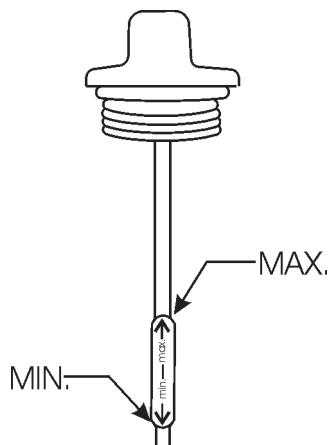

Figure 17. Dipstick (Mixer Engine)
- Determine if the mixer engine oil is low (Figure 17), add correct amount of engine oil to bring oil level to a normal safe level. See Table 7 for recommended oil type.